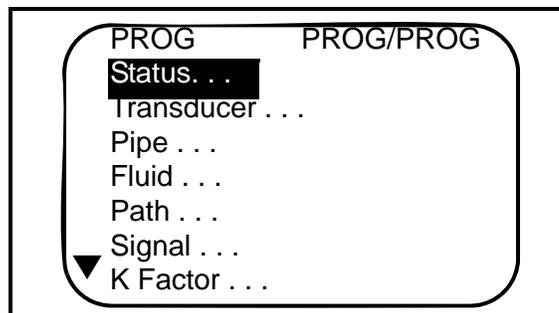

Figure 32: The PROG Menu
3. Use the [▲] and [▼] keys to scroll to the desired channel and press [ENT]. The screen appears similar to Figure 32 below.